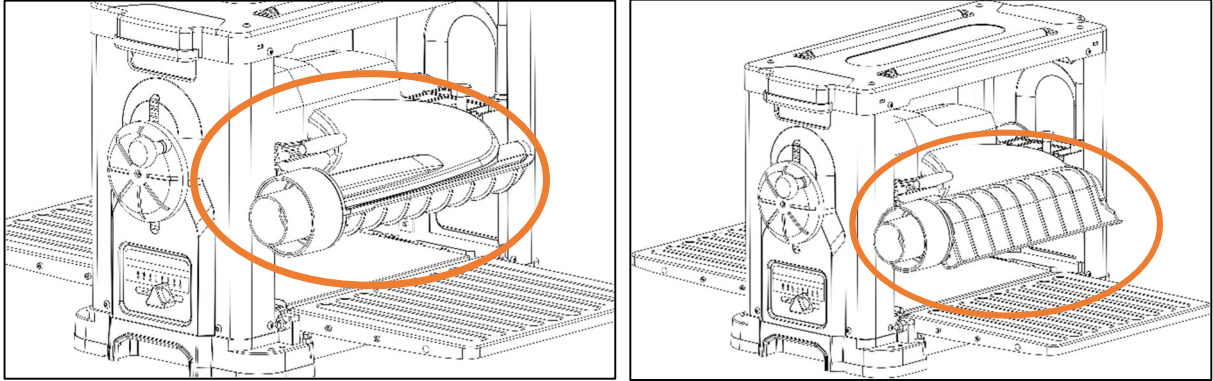

FIG 3
4. The dust port can be opened to allow chips to flow out the back of the planer when a vacuum system is not used. SEE FIG 3.